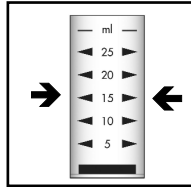

Figure 1
1. Fill the sample cup to the 15 mL mark with the sample (fig 1).